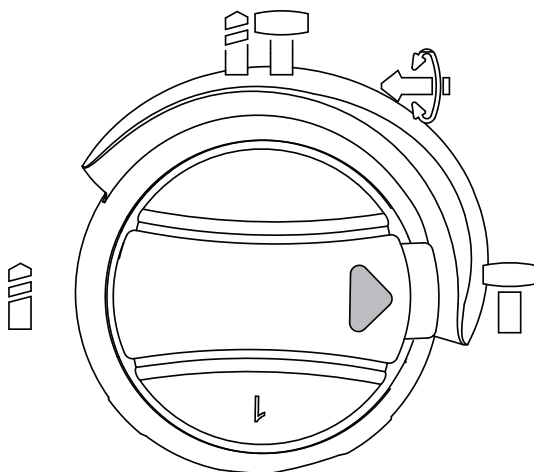

Figure 10
7. CHISEL FUNCTION (SEE FIG. 10)